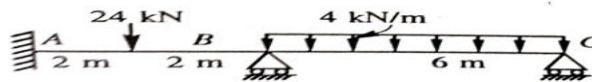

Figure 2.
4. Analyze the continuous beam shown in figure 2, by using Moment Distribution Method. The yielding of supports permits a clockwise rotation of $4/EI$ at A and vertical downward settlements of $24/EI$ and $12/EI$ at B and C respectively. The flexural rigidity EI is constant. [14M]